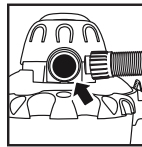

FIGURE 27
45. Your vacuum can be used as a powerful blower. To use your unit as a blower, clear hose of any obstructions. Insert machine hose end into blower port on rear of unit. **FIGURE 27.** Twist slightly to tighten the connection. Caution should be used when using as a